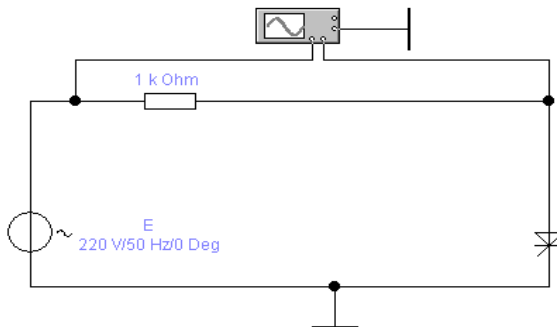

Figure 7.1 – Turn on the thyristor on the anode circuit
- 1 Draw a diagram of fig. 7.1.